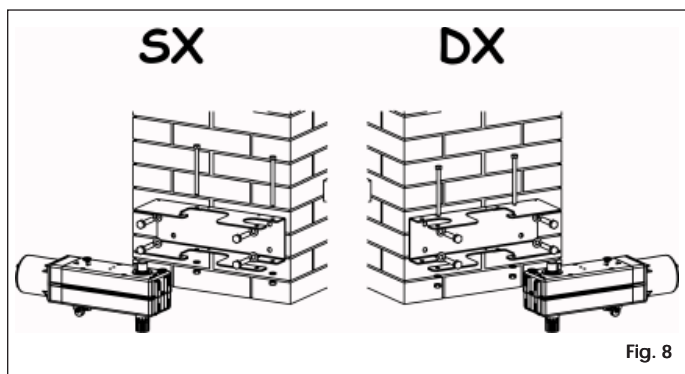

Fig. 8
- Secure the base-plate to the pilaster, using Ø10 screws and suitable expansion plugs (Fig. 8), and check it is perfectly horizontal.
- Fit the gearmotor unit on the base-plate and secure it with the two screws, nuts and flexible washers (Fig.8).